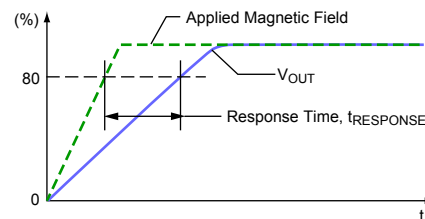

Figure 4: Response Time Definition
**Response Time:** ( $t_{RESPONSE}$ ) The time interval between a) when the applied magnetic field reaches 80% of its final value, and b) when the sensor reaches 80% of its output corresponding to the applied magnetic field (see Figure 4).